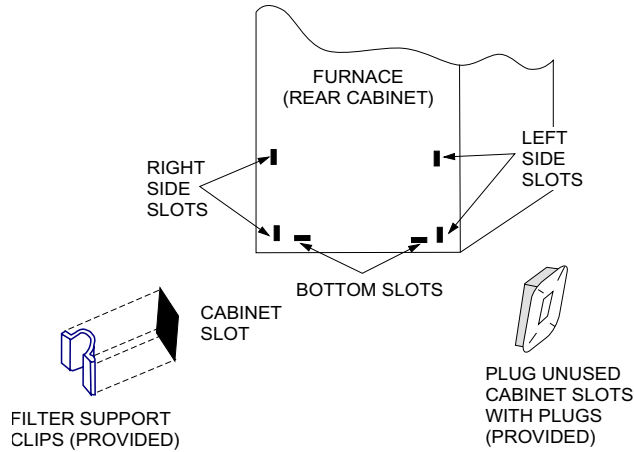

FIGURE 3 : FURNACE FILTER SLOT LOCATIONS
2. Install snap-in retainer clips into the corresponding slots from the outside rear of the cabinet (Refer to Figure 3 on page 10). To prevent cabinet air leaks, install snap-in plugs (provided) into the unused slots at the outside rear of the cabinet.